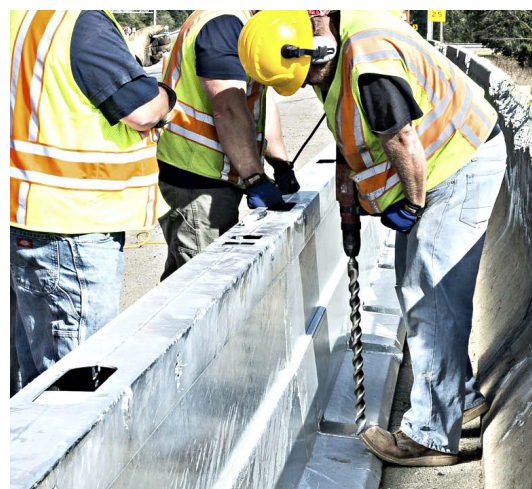

Figure 7
- Anchoring into Asphalt or Concrete Roadway – Using the holes in the feet as a template, drill a 1 ½" diameter hole to the proper depth required by the length of the pin (see Figure 7). Once the holes are drilled, clear the debris from the hole. Insert the pin into the hole of the foot. If necessary, drive the pin using a hammer until the top of the pin is firmly against the foot of the Zoneguard®. If the head of the pin is not firmly against the foot of the Zoneguard®, remove the pin and drill the hole deeper.